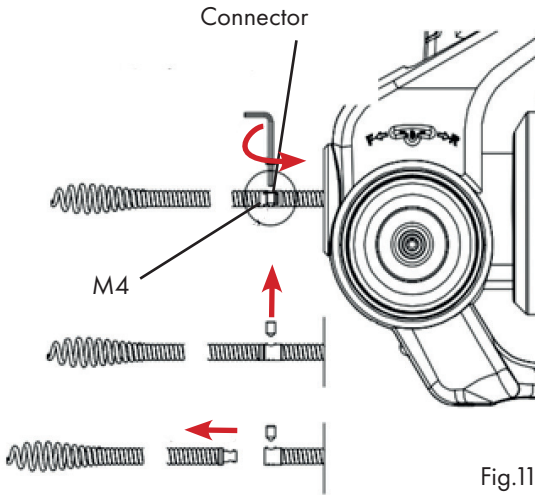

Fig.11
- Remove the old spiral shaft (Fig. 11 next page).